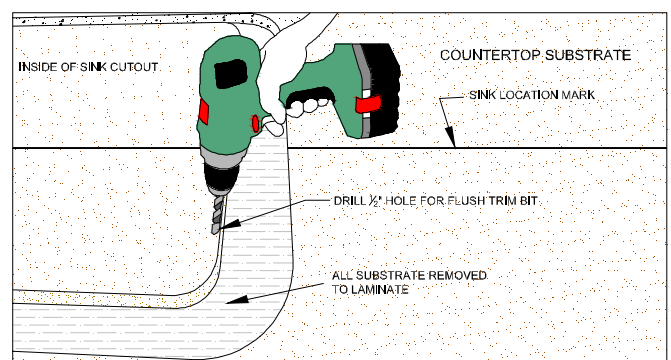

Figure 2D
- Drill a $\frac{3}{8}$ " or larger pilot hole through the substrate at the inside of the sink cutout to insert a laminate trim bit to cutout center piece. (FIG. 2D)